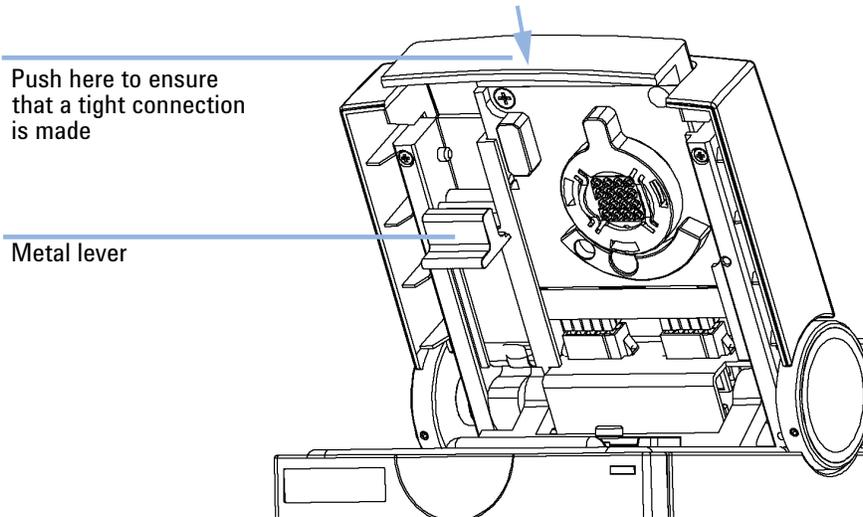

Figure 7 Inserting the 16-Pin Cartridge
- 1 Slide the 16-pin cartridge into the 2100 Bioanalyzer lid as shown in Figure 7.